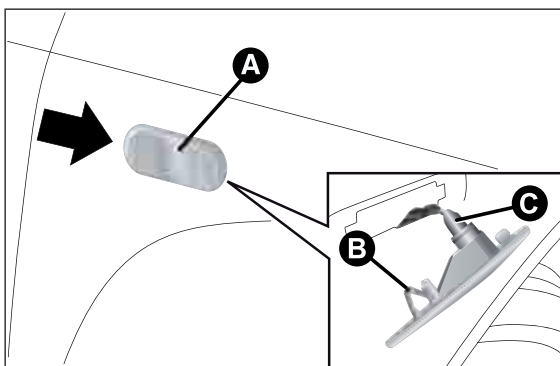

fig. 117
- ☐ adjust the lens A fig. 117 to compress in the internal catch B, then pull the unit outwards;